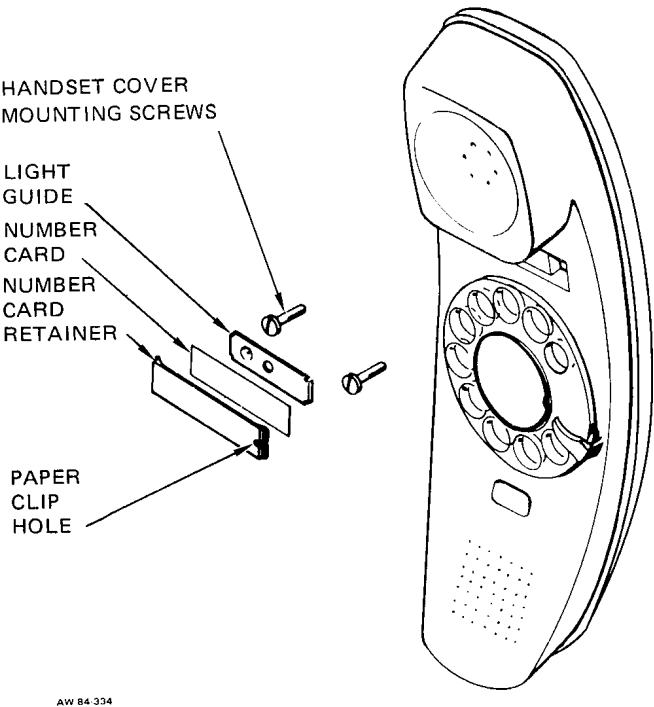

Figure 5: Removal of Number Card Retainer
- (a) Remove the number card retainer, number card, and light shield from the telephone handset; use a paper clip or similar instrument to pry the card retainer from the handset. (See Figure 5.)
- (g) Install the light shield, number card, and number card retainer in the slot provided. (See Figure 5.)